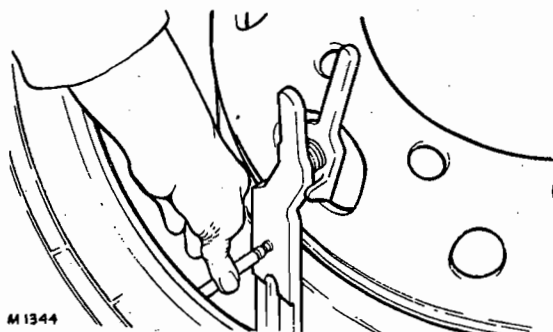

FIG. 6. ALIGNING VALVE STEM
4. Steady and align the valve stem as the tyre is picked up to slide it over the barrel of the wheel. See Fig. 6.